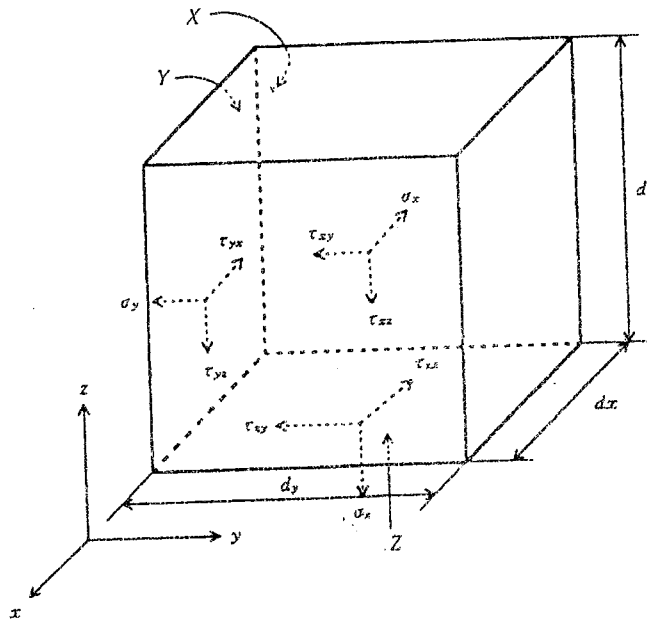

Figure 1
1. (a) Derive the partial differential equation in X, Y and Z direction for three dimensional stress strain based on Figure 1.